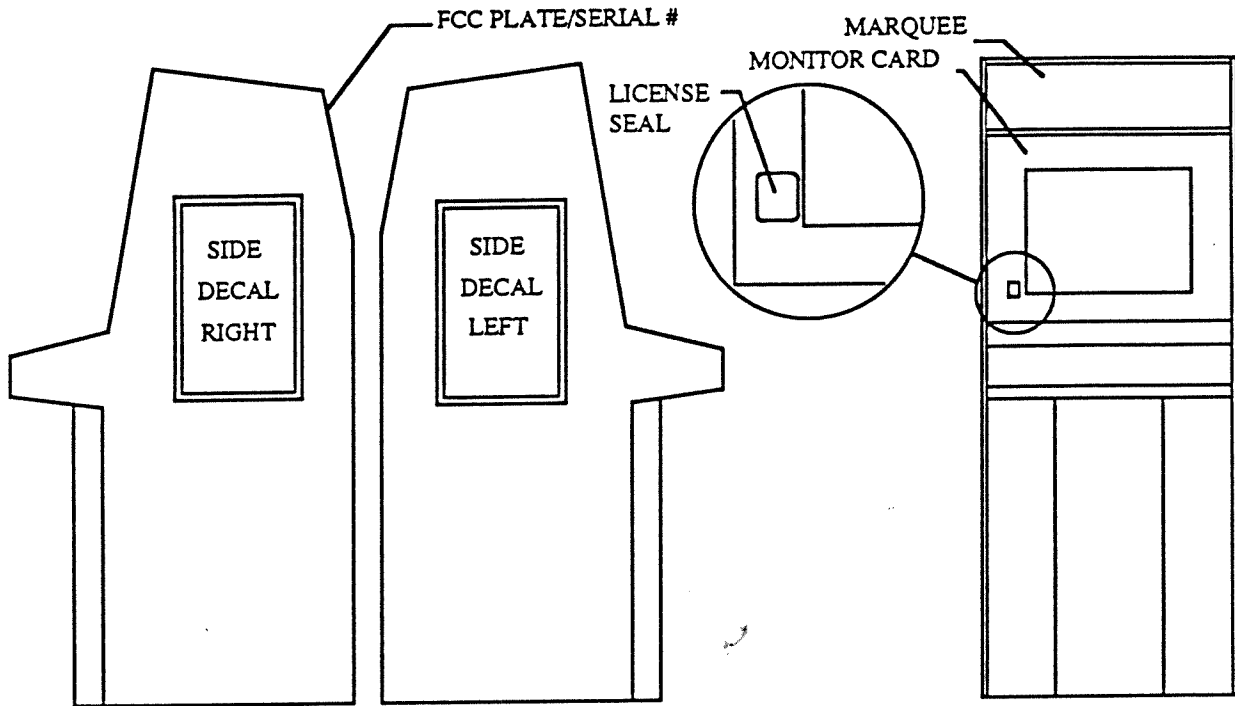

Figure 1
35. Locate the Kit **SERIAL NUMBER STICKER** and **FCC PLATE**. Install on the rear of the game cabinet. (see figure 1)